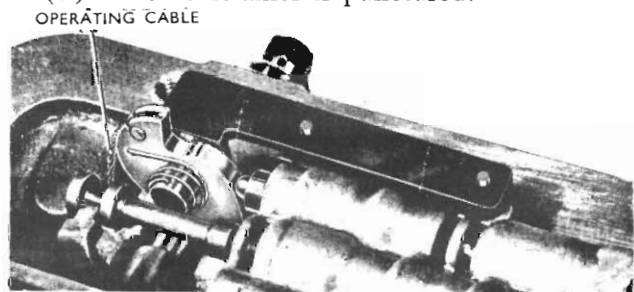

Fig. 31 - Correct cam installation
**To Disassemble Throttle Valve Cam (Refer Fig. 31)**
- (1) Remove the 2 screws and lock washers retaining the throttle valve cam assembly to "lower" kickdown valve body, taking care that the kickdown valve does not eject when the cam is released.
- (2) Remove the kickdown valve and spring.
- (3) Discard strainer if punctured.